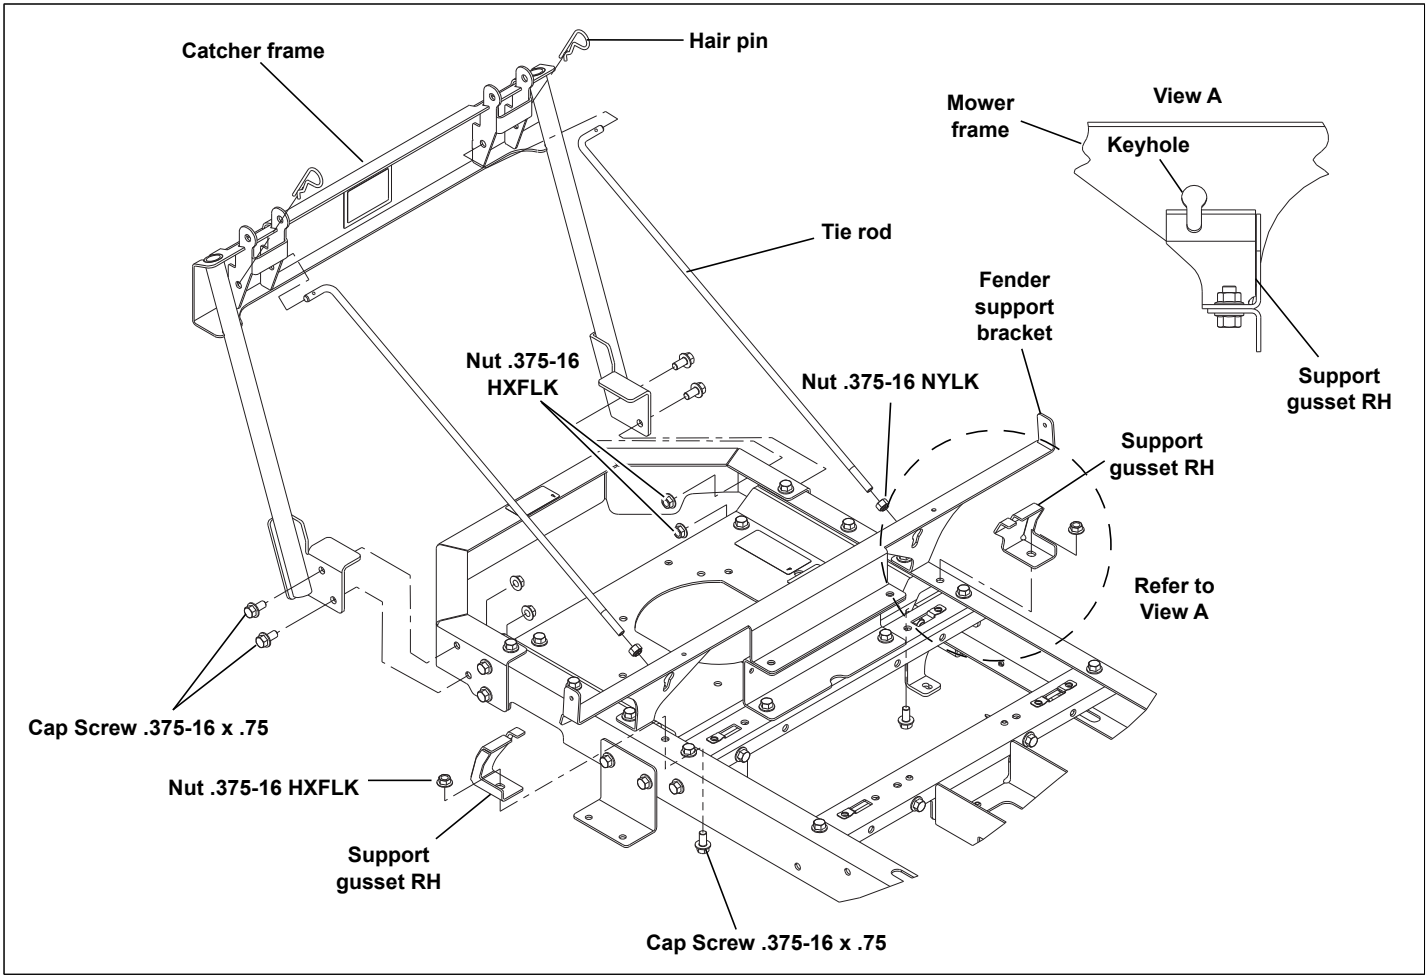
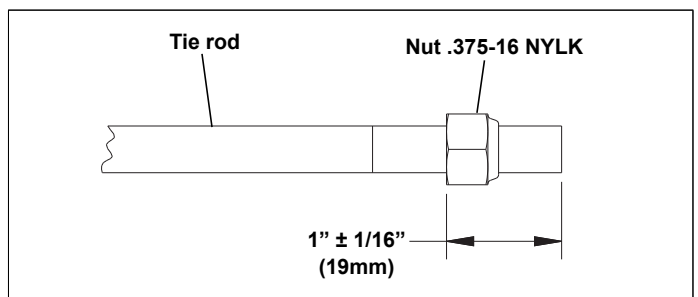

Figure 3-2
Figure 3-6
6. Attach the catcher frame to the rear of the mower. **Do not tighten** the mounting bolts at this time. Figure 3-2
9. Attach the support gussets to the mower frame. The slots in the support gussets must align with the keyhole slots in the fender support bracket. Assemble the hardware as shown with the cap screw inserted from the bottom. Figure 3-2 View A
10. Thread a .375-16 nylon locking nut onto each of the tie rods to the dimension shown in Figure 3-2 & Figure 3-6
Make sure the nut on the tie rod is inserted through the slot in the support gusset. Figure 3-2 & Figure 3-6
The nut end of the tie rod can be easily inserted through the upper end of the slot if positioned horizontally then angled upwards after the nut clears the support gusset. Figure 3-2 & Figure 3-6
Then, insert the tie rod through the proper hole in the catcher frame and secure with a hair pin. Figure 3-2